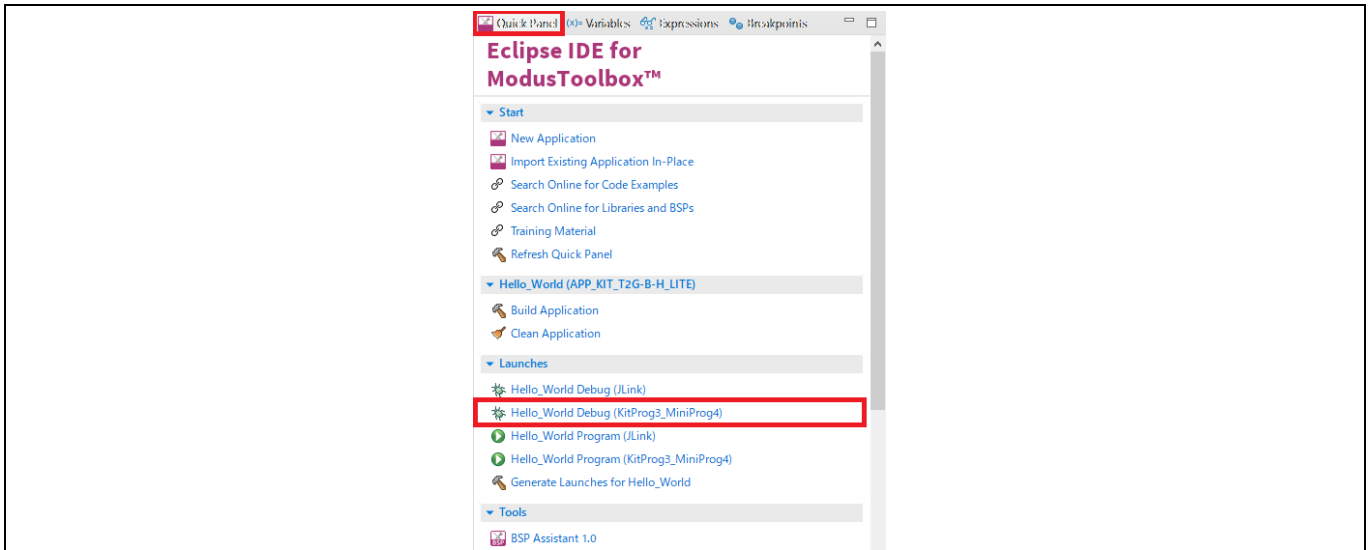

Figure 12 Debugging in ModusToolbox™ software
- ModusToolbox™ software has an integrated debugger. To debug a TRAVEO™ T2G-B-H MCU application, in the Project Explorer, select **<App_Name>** project. In the Quick Panel, scroll to the **Launches** section and click the **<App_Name> Debug (KitProg3_MiniProg4)** configuration as shown in Figure 12. For more details, see the “Program and debug” section in the Eclipse IDE for ModusToolbox™ user guide.